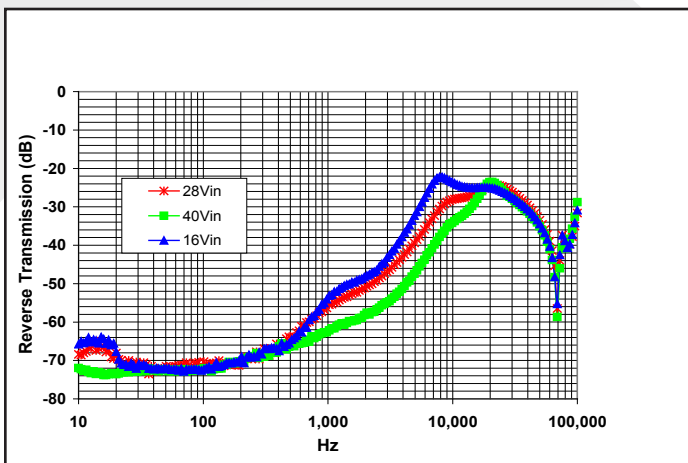

Figure 15: Magnitude of incremental reverse transmission ( $RT = i_{in}/i_{out}$ ) for minimum, nominal, and maximum input voltage at full rated power.
**Back-Drive Current Limit:** If there is negative output current of a magnitude larger than the "Back-Drive Current Limit while Enabled" specification\*, then a fast back-drive limit controller will increase the output voltage to maintain a constant output current. If this results in the output voltage exceeding the "Output Over-Voltage Protection" threshold\*, then the unit will shut down. The full I-V output characteristics can be seen in Figure 15.